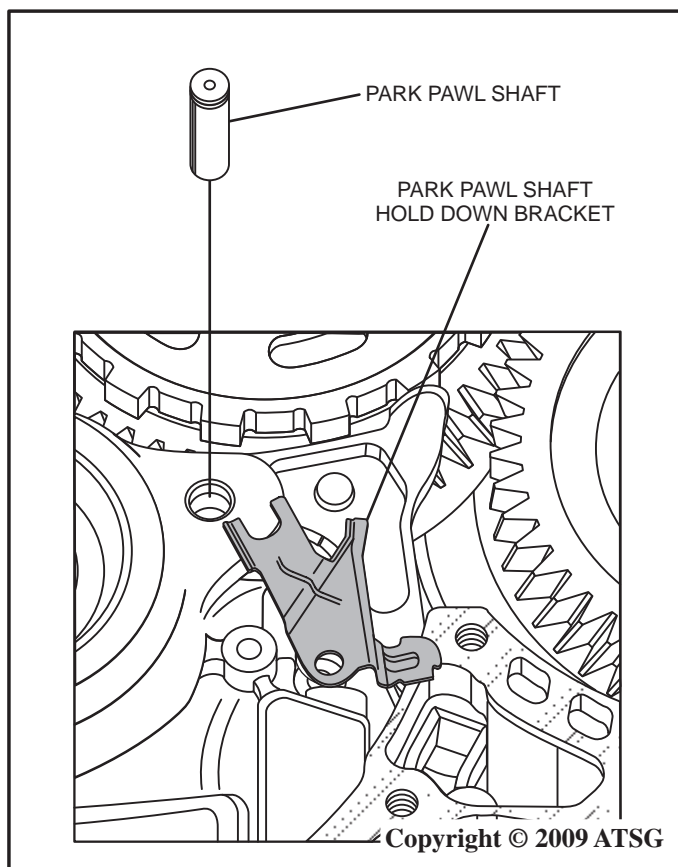

Figure 33
44. Rotate the park pawl shaft hold down bracket and remove by sliding out and away from the park pawl shaft locating groove as shown in Figure 33.
45. Remove the park pawl shaft by lifting straight up as shown in Figure 33.